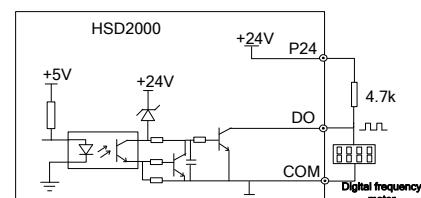

Figure 4-23: Output Terminal DO Connection 1
- Digital pulse frequency output DO may use servo drive internal 24V power supply. The wiring may refer to Figure 4-23.